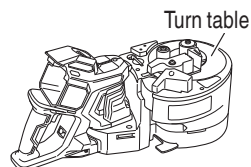

Fig. 40
(3) Position the tool so that the turn table is facing upwards (Fig. 40)